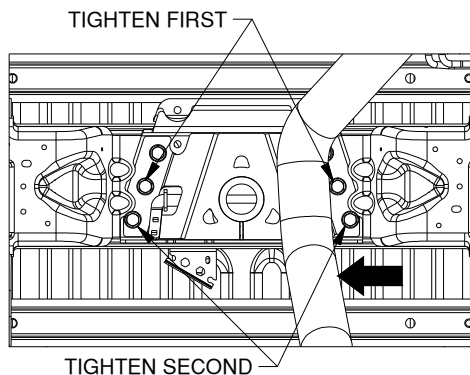
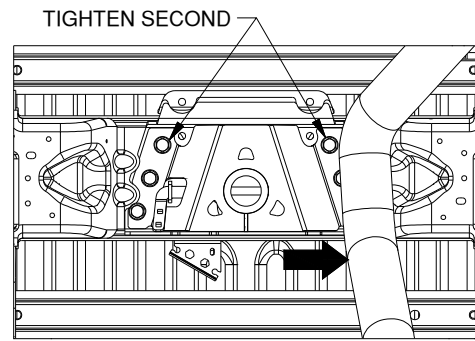

Figure C1: View under bed looking at center
Figure C2: View under bed looking at center.
- 2. Tighten the bolts.** With the hitch square and firmly pressed against the frame cross member, tighten the 5/8" bolts. Tighten the center bolt of each three-bolt pattern first, see figure C1. Then tighten the rest, see figure C2. To better access the bolts on the passenger side of the center section move the exhaust as needed to allow access to the bolts. Torque the bolts to 100 ft. lbs.